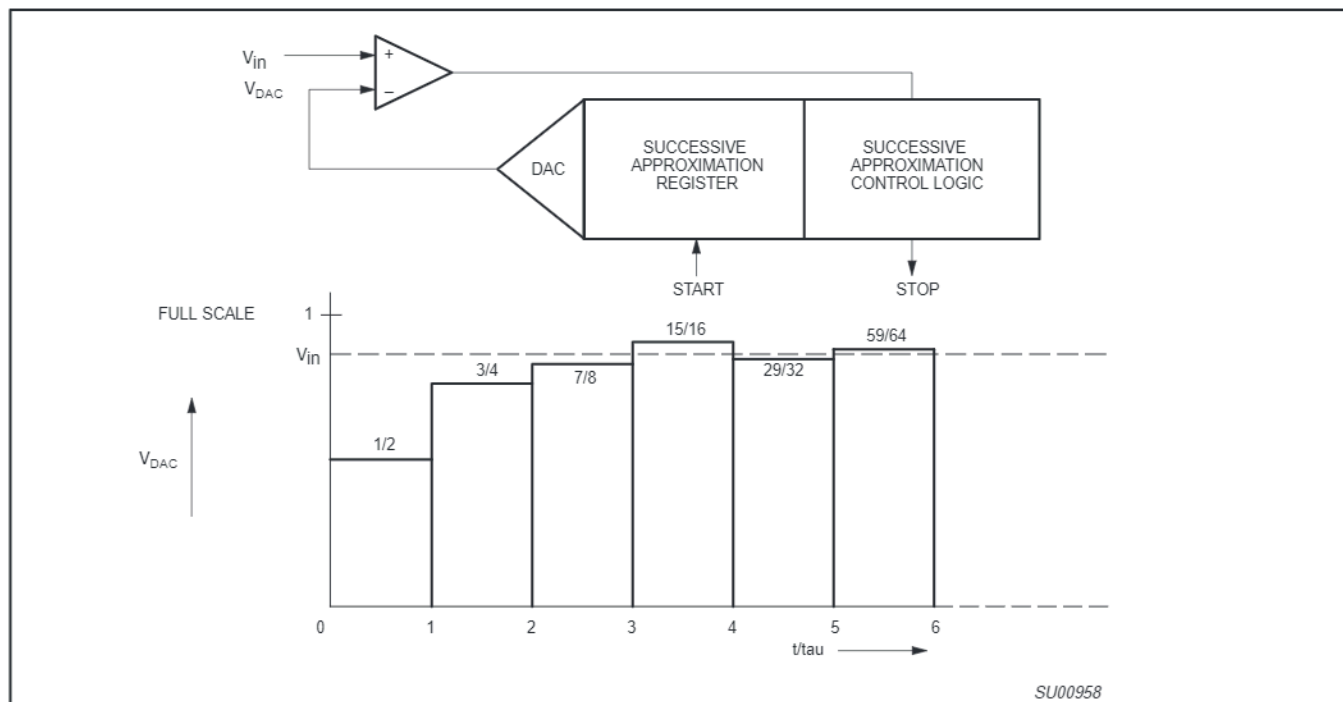

Figure 21. Successive Approximation ADC
10-Bit Analog-to-Digital Conversion: Figure 21 shows the elements of a successive approximation (SA) ADC. The ADC contains a DAC which converts the contents of a successive approximation register to a voltage (VDAC) which is compared to the analog input voltage (V_{in}). The output of the comparator is fed to the successive approximation control logic which controls the successive approximation register. A conversion is initiated by setting ADSC in the ADCON register. ADSC can be set by software only or by either hardware or software.